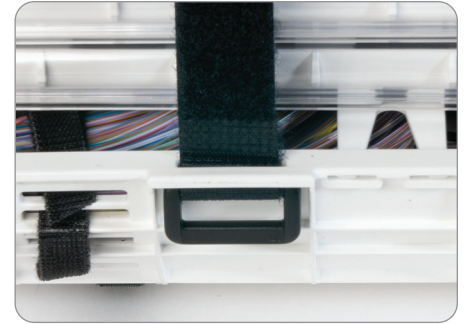

Figure 50
5. Pull the three Velcro straps through the horizontal strap slots soft side up. (Figure 50)